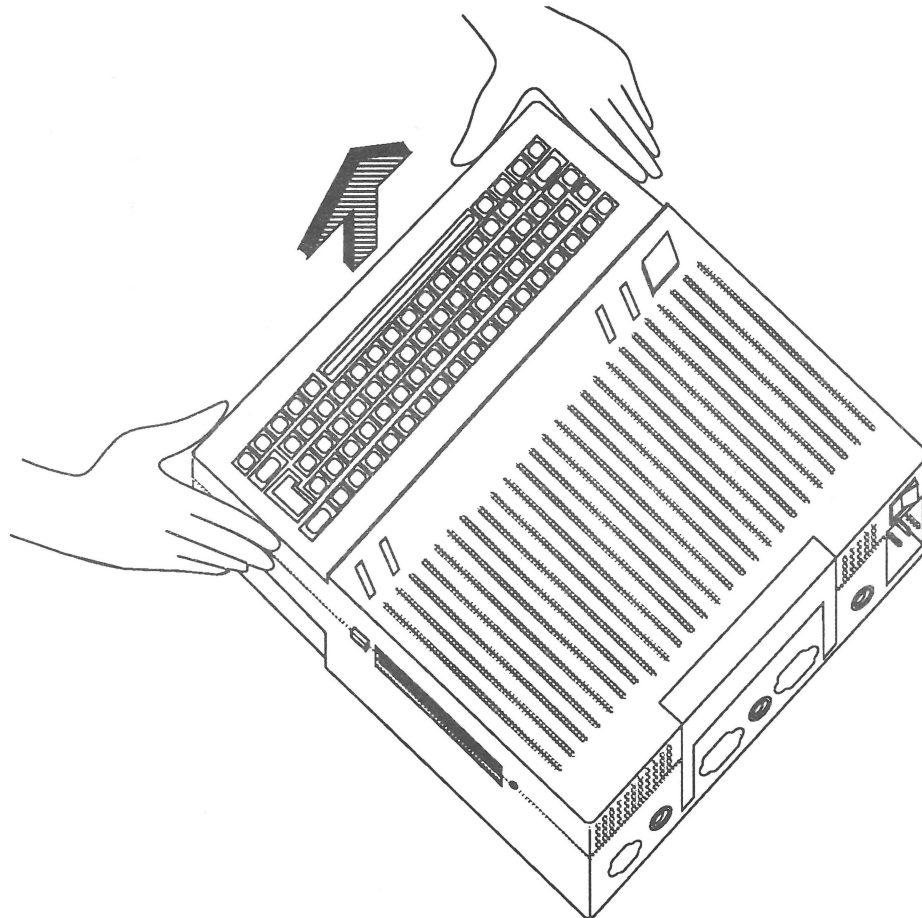

FIGURE 2
6. Place each thumb on the front of the top case (approximately one-third of the distance in from the edge) and your index fingers on the side of the bottom case near the upper-right and -left corners of the keyboard (Figure 2). Simultaneously press the top case back and up until the front of the top case comes loose.